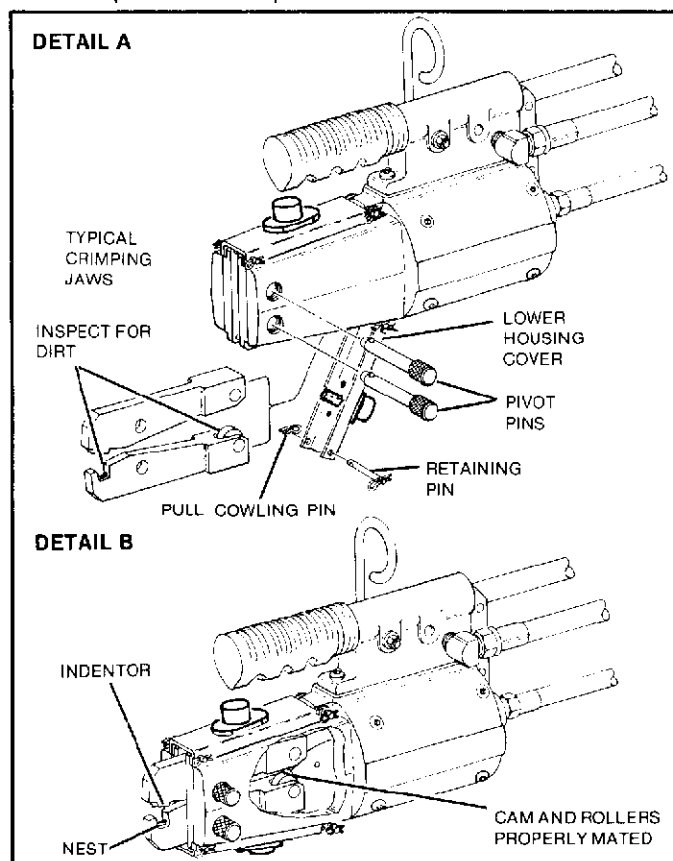

Figure 2-1
Crimping jaws are coated with oil to prevent rust and corrosion. Wipe the oil from jaws, particularly from crimping area. Inspect die closure area, bottoming surfaces and cam rollers for deposits of dirt or other foreign particles and wipe with a clean cloth. See Figure 2-1, Detail A. Relubricate cam rollers as instructed in Paragraph 3.2.3.
- Pull one cowling pin and remove retaining pin from lower housing cover. Cover will swing open. See Figure 2-1, Detail A.
- Orient jaws so that nest is on bottom and indenter is on top. See Figure 2-1, Detail B.
- Position crimping jaws in tool housing ensuring that cam rollers are properly mated with cam, see Figure 2-1, Detail B and pivot pin holes of jaws and tool housing are aligned.